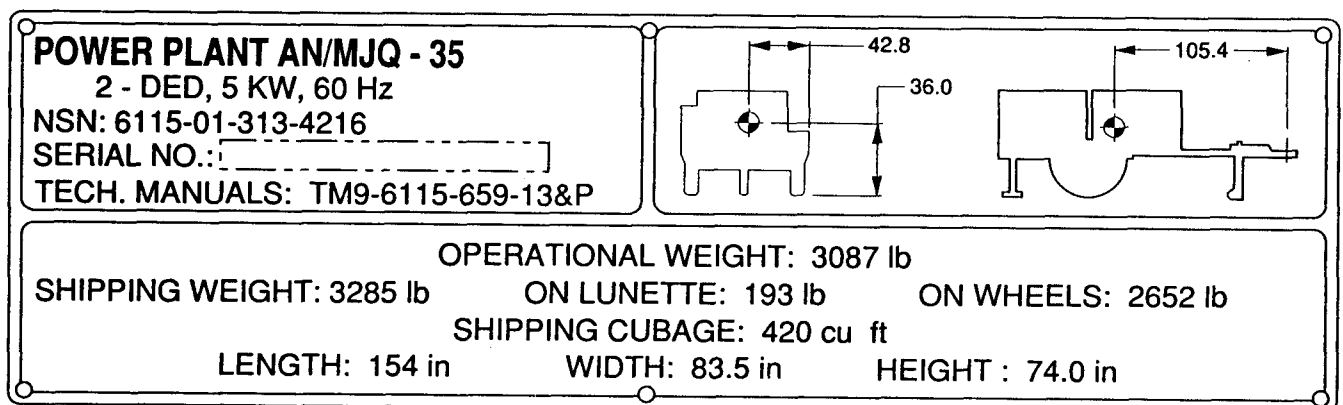

Figure 2-11. AN/MJQ-35 Identification/Transportation Data Plate.
**2-6.1 AN/MJQ-35 Identification/Transportation Data Plate.** Refer to figure 2-11. This plate is located on rear of curbside fender.